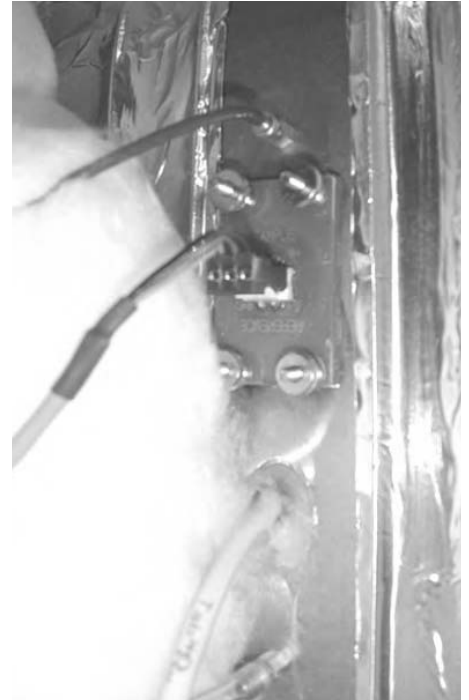

Figure 6. CO2 Sensor
2. Remove the ten (10) #2 Philips screws that secure the outer rear wall in place, and remove the first layer of insulation (see Figure 6).
5. Access the CO2 Sensor Interface PCB by removing the twelve (12) screws that secure the side access cover.